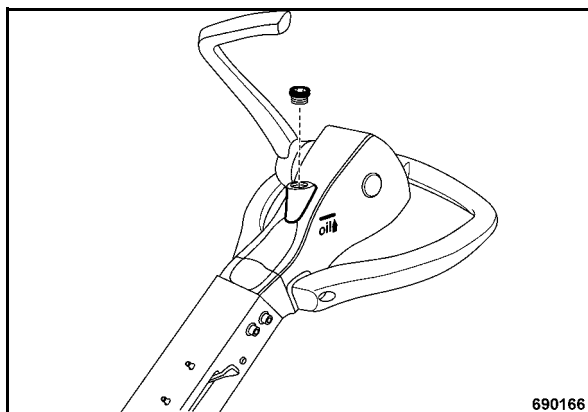

Fig. 74
- Screw in and tighten the plug (Fig. 74).